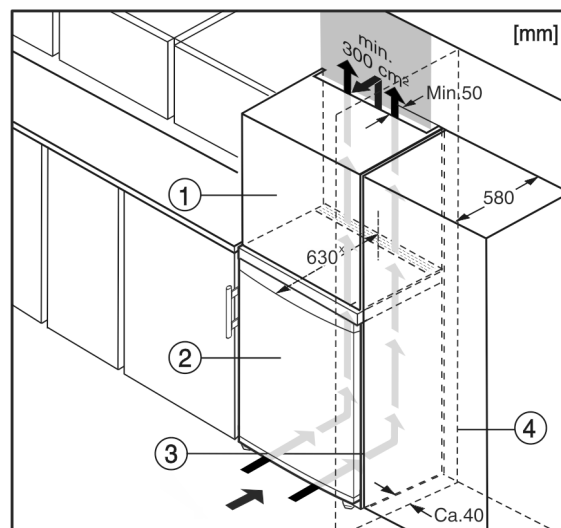

Fig. 5
- (1) Top cupboard
- (2) Appliance
- (3) Kitchen cabinet
- (4) Wall
The appliance can be built into kitchen units. A top cupboard Fig. 5 (2) can be added above the appliance in order to bring the appliance Fig. 5 (1) up to the height of the fitted kitchen units.
If you are integrating the appliance into a kitchen unit (max. depth 580 mm) you can install it right next to the kitchen cabinet *Fig. 5 (3)*. The appliance measures 34 mm * at the side and 50 mm * at the centre in relation to the front of the kitchen cabinet.
If you are installing the appliance with the hinges next to a wall *Fig. 5 (4)*, the distance between the appliance and the wall must be at least 40 mm. This is how far the handle protrudes when the door is open.